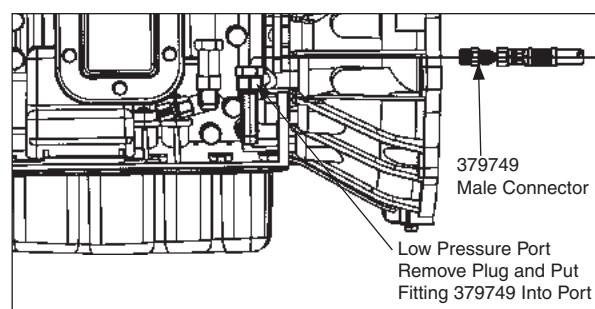

Figure 28
2. Next remove the low pressure port plug located on the right side (passenger side of transmission) and install part number 379479 male connector fitting into port (**Fig. 28**).